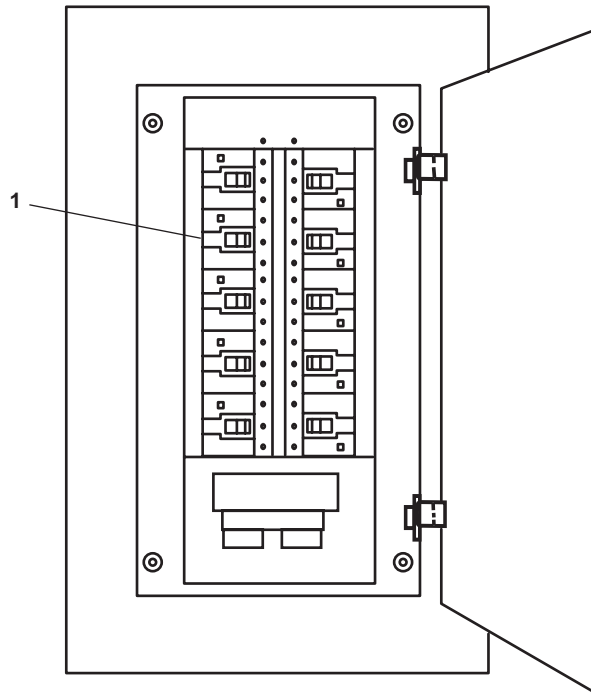

Figure 2. 440V Power Panel No. 4
2. Set to ON the MSD DISCHARGE PUMP AND BLOWER circuit breaker (**LT 803 Only**), or the CONTROLLER FOR MSD DISCHARGE PUMP AND BLOWER circuit breaker (**All Other Vessels**) (figure 2, item 1) in 440V power panel No. 4.